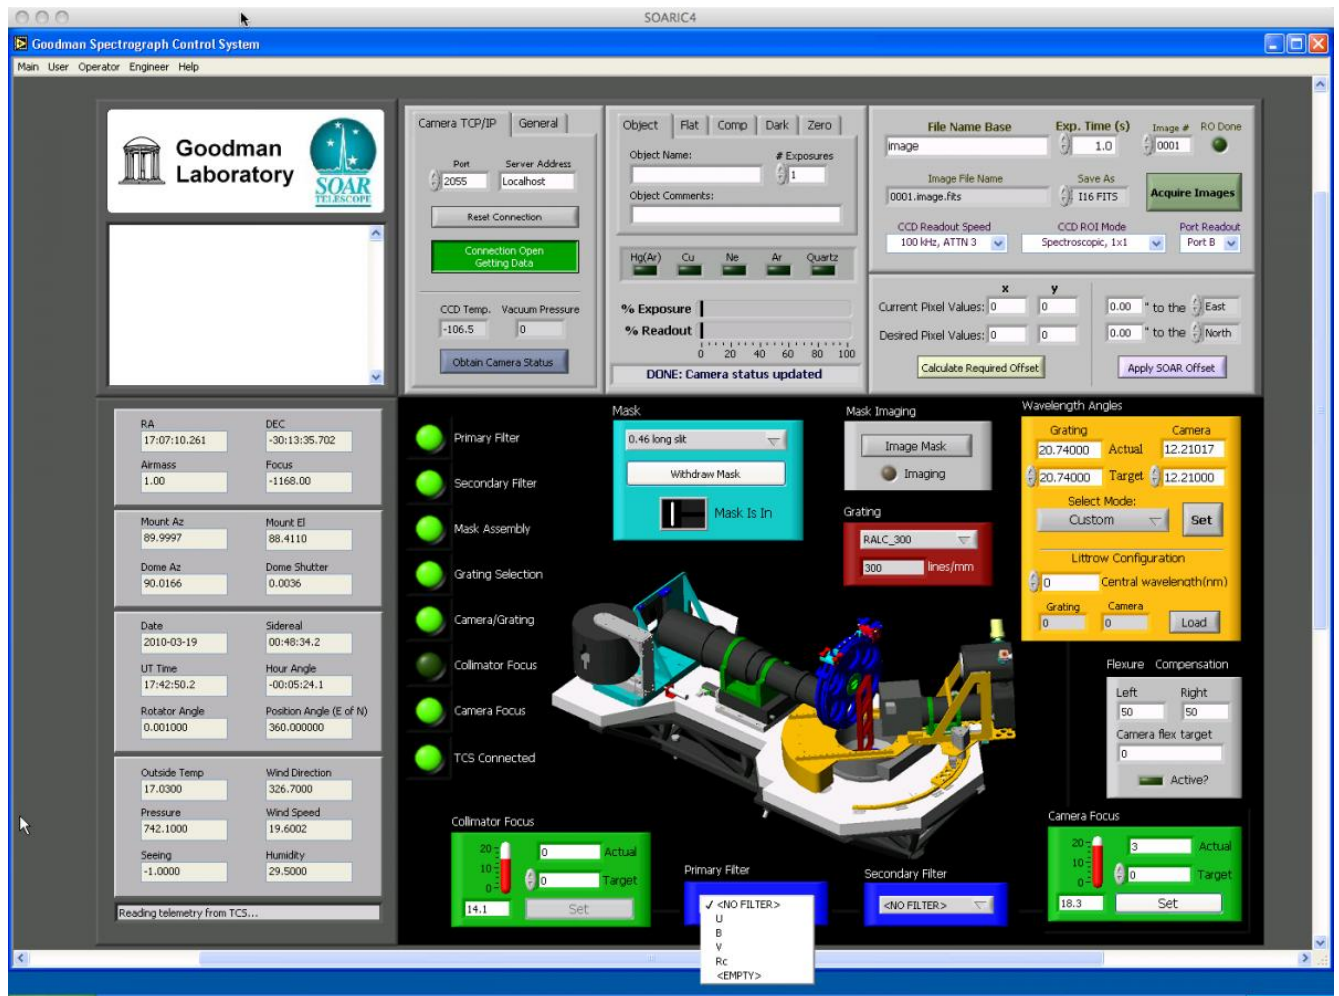

Figure 11: Changing the primary filter.
- Change the "Primary Filter". The Goodman filter wheels can hold 5 +1 (empty) 4" diameter filters. We have placed UVR filters on the Kron-Cousins system in the primary filter wheel on Goodman (see Figure 11).